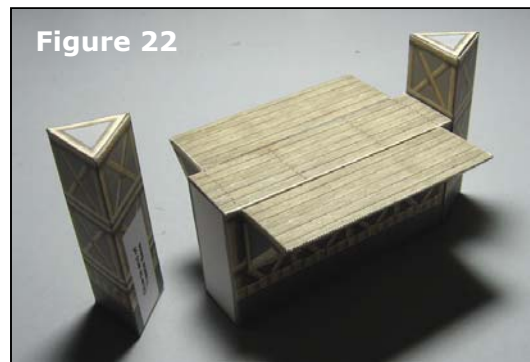

Figure 22
3. Apply glue to the ends of the Trestle Base. Fit the Trestle End-pieces to the glued area being certain that the bottoms of both components are flush (Figure 22).